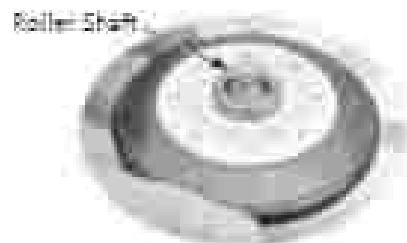

Figure 8 - Remove roller from shaft.
2. Slide the roller off the roller shaft (see Figure 8).